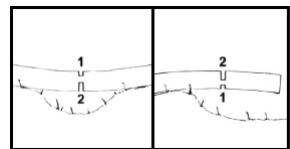

Fig. 1
**Warning: If the tree is under tension, the guide bar may be pinched. The user will lose control of the chain saw, resulting in serious injury. (Fig. 1)**
- First cut a force-relief groove from the tight side (1), and then cut into the loose side (2).